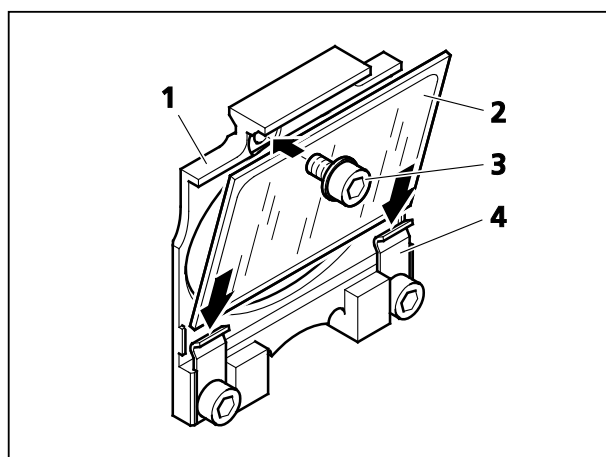

Fig. 5-5 Changing the beam combiner in the mounting frame
- Remove the mounting frame for the beam combiner (Fig. 5-5/1) carefully from the lamp module (see also Section 5.3).
- Loosen the screw (Fig. 5-5/3) and remove the beam combiner (Fig. 5-5/2).
- Carefully slide the new beam combiner underneath the spring-loaded frames (Fig. 5-5/4).
- Carefully re-tighten the screw (Fig. 5-5/3).